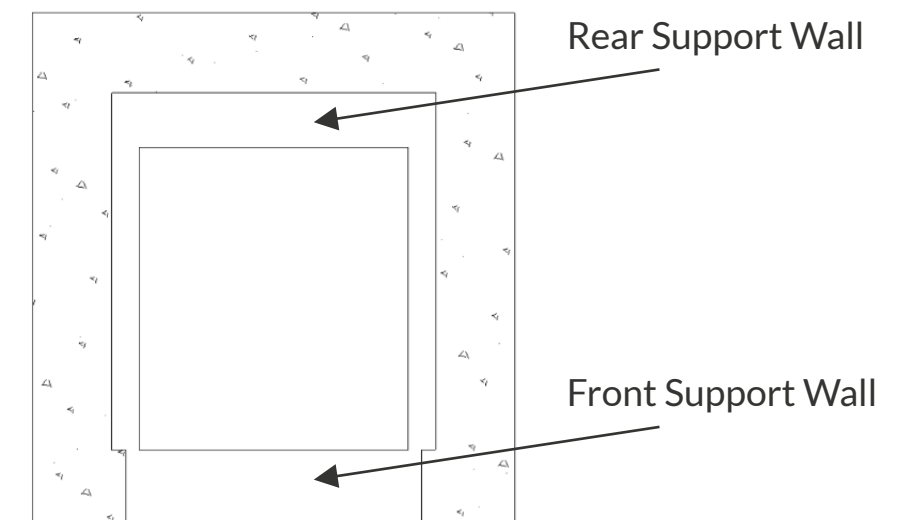

Figure 2 (upper view)
2. For the installation of the equipment, the grill must have a rear wall with a 5cm thickness (10cm if it includes a Rotating Grill) level with the front wall of the masonry, which will serve as support, as shown in Figure 2.